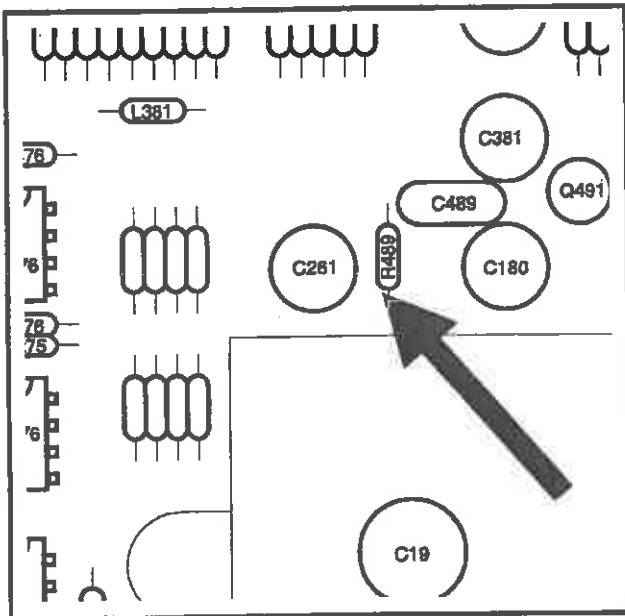

Fig. 5-17. Where to attach the probe to adjust C19.
- b. Attach probe to R489 as shown in Fig. 5-17.